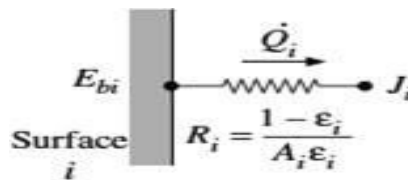

Fig. 6.8 Electrical analogy of surface resistance to radiation
- This equation can be represented in the form of an electrical network as shown in figure 6.8. The factor $(1 - \epsilon)/A\epsilon$ is related to the surface properties of the radiating body and is called the surface resistance to radiation heat transfer.